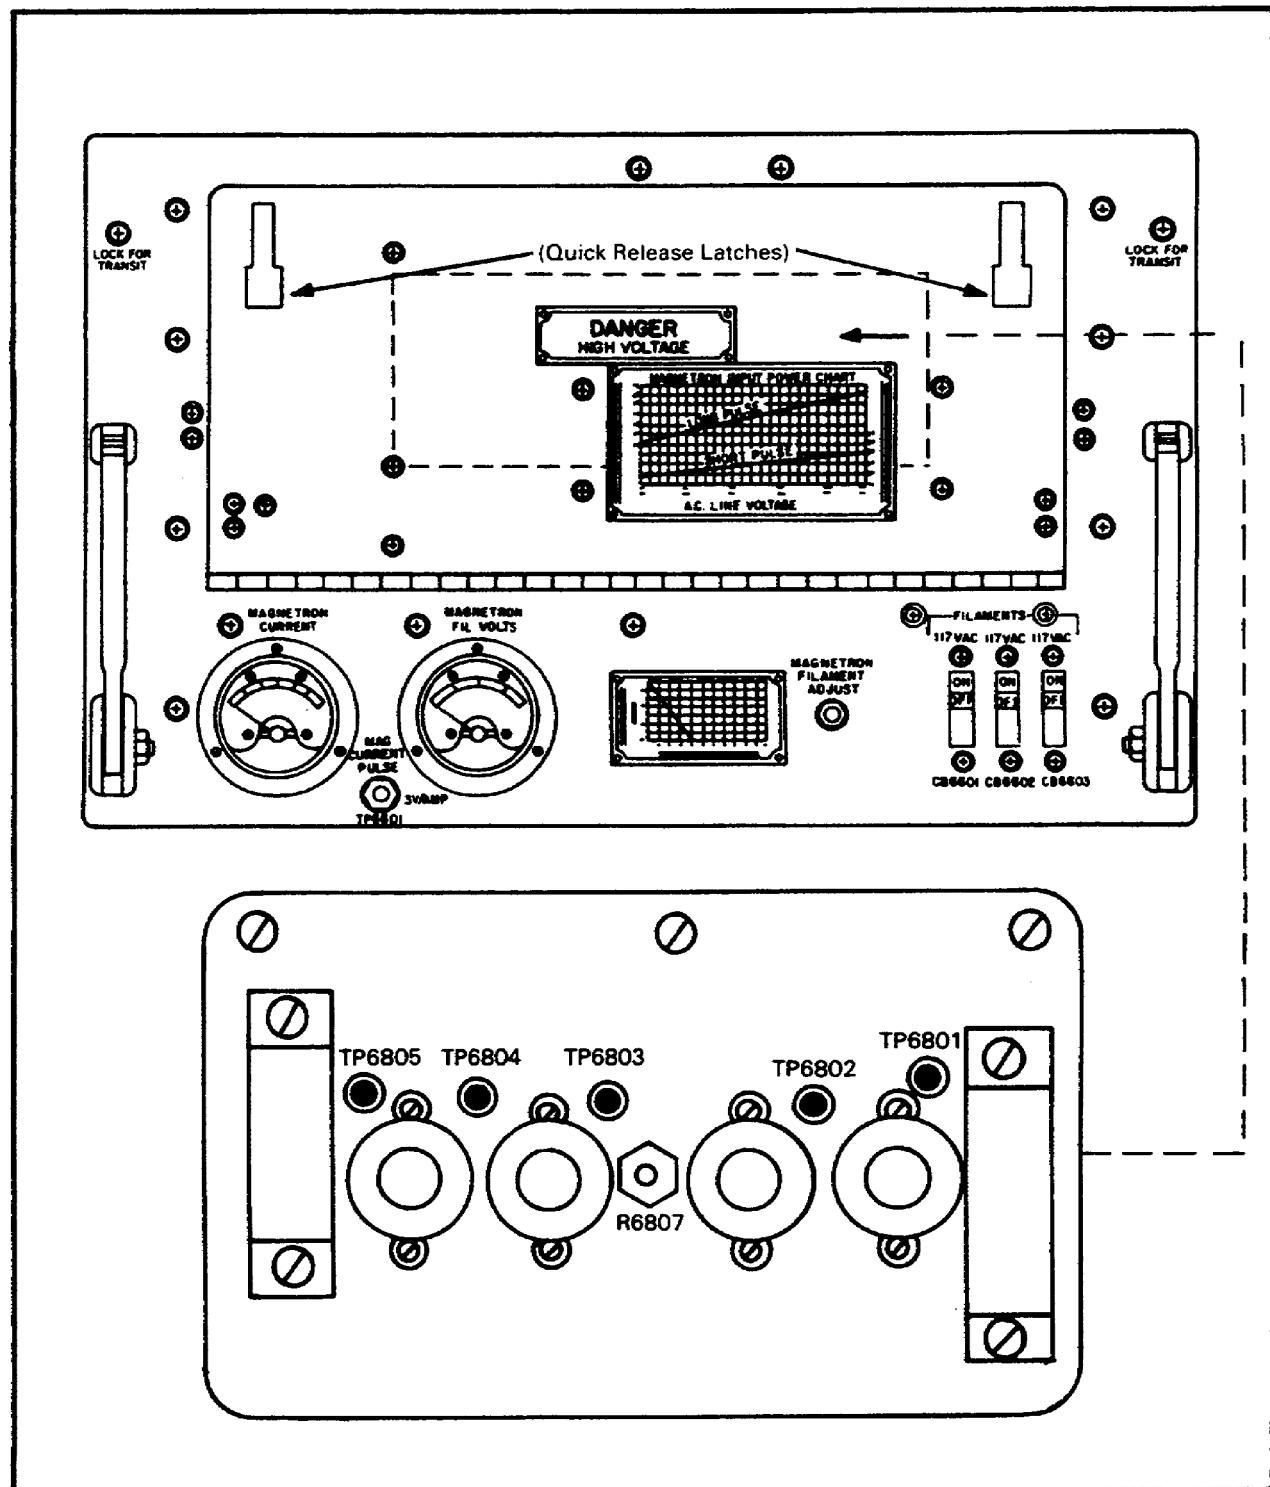

Figure 47. Transmitter, radar T-749A/FPN-40 and pulse delay oscillator.
e. Locate the pulse delay oscillator mounted on the inside of the panel cover of transmitter radar T-749A/FPN-40. (See Figure 47.)
- Pulse delay oscillator assembly O-1284/FPN (Figure 47)